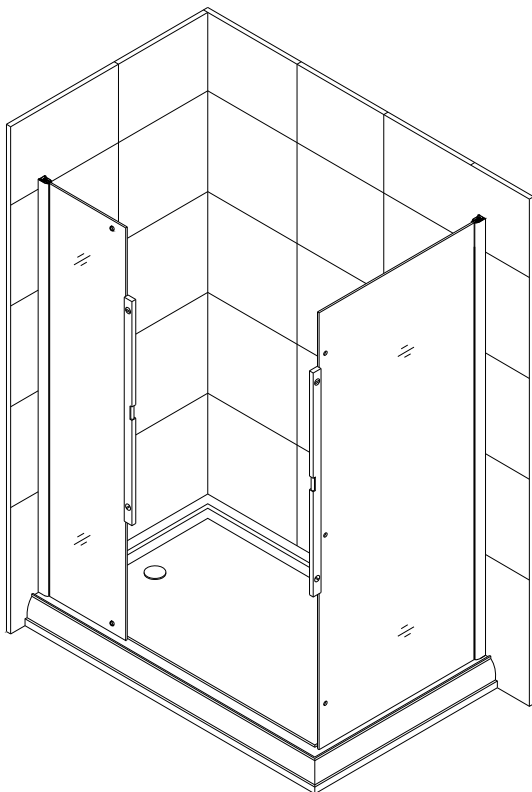

Fig 3
3. Repeat step 1-2 to install another side wall profile and **Stationary glass 3 (05)** on the long wall 56 5/8" (1438mm) from the corner to the external edge of the profile. Check, if stationary glass installed vertical in both directions with spirit level. See Fig 3 for details.